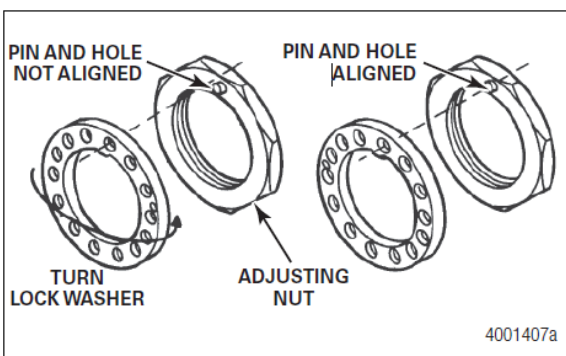

Figure 5.16
7. Install the lock washer. If the hole in the washer is not aligned with the inner adjusting nut pin, remove the washer, turn the washer over and reinstall it. The pin and the hole should now be aligned. If not, slightly adjust the inner adjusting nut. Use whichever lock washer side causes the least movement of the adjusting nut. Figure 5.16.